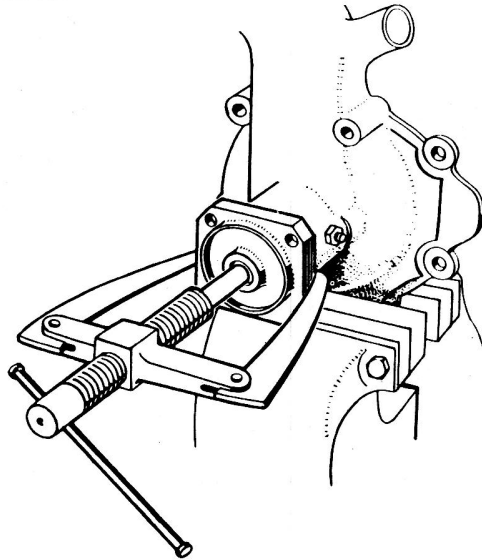

Fig.2.9. Withdrawing the fan hub from the spindle
- 1 Remove the fan hub by means of a suitable extractor as illustrated in Fig.2.9.